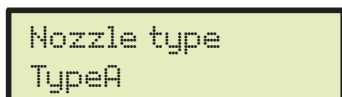

Fig. 60
- Then the computer automatically passes to the selection of the nozzle to be set (Fig. 60).